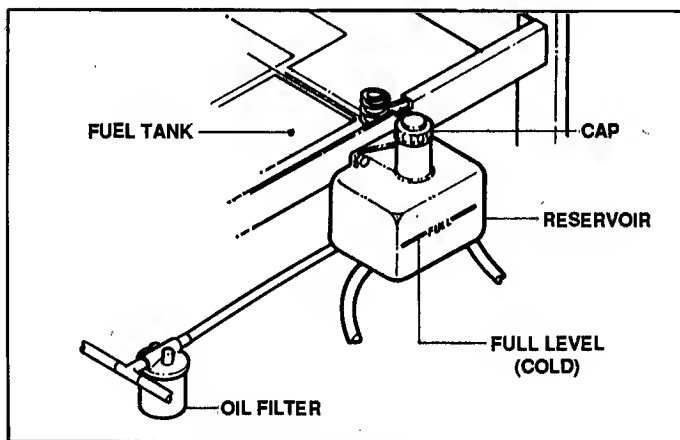

FIGURE 9.5
5. Loosen cap on fluid reservoir and allow fluid to drain. See Figure 9.5.